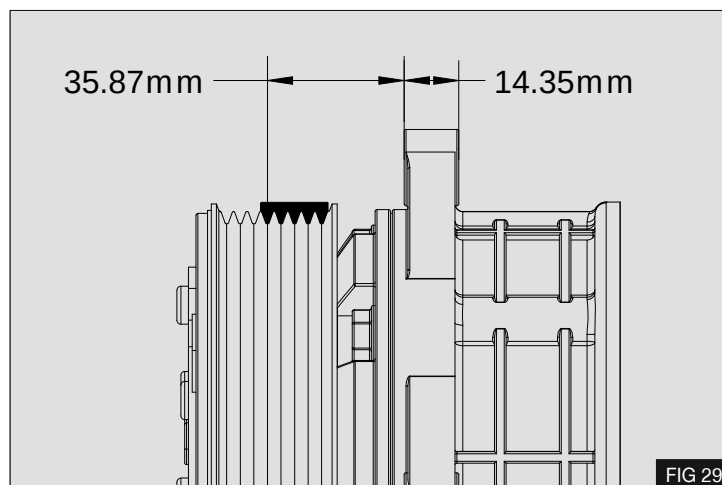

FIG 29
4. Torque bolts (27) and (29) to 29 Nm / 22 lb ft
Place the supplied 5PK drive belt (18) in the position shown on the clutch opposite - Fig 29